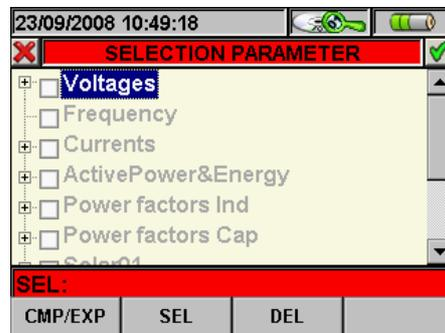

Fig. 178: Parameter selection
1. Press the **F1** key (or the **PARAM** item on the display) to access the page of selectable parameters (Fig. 178).
- The **F1** key (or the **PARAM** item on the display), to access the page of selectable parameters (Fig. 178)